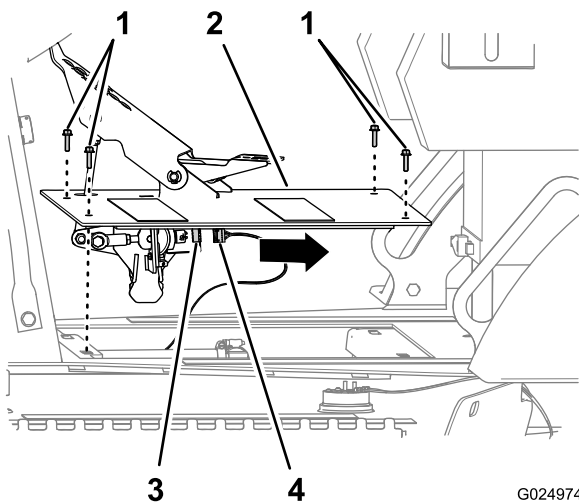

Figure 115
1. Remove the 4 hex-flanged head bolts that secure that traction-pedal assembly to the chassis of the machine (Figure 115).
2. Disconnect the 6-socket connector of the machine harness from the 6-pin connector of the traction-pedal sensor (Figure 115).
3. Remove the traction-pedal assembly from the machine (Figure 115).
1. Connect the 6-socket connector of the machine harness to the 6-pin connector of the traction-pedal sensor (Figure 115).
2. Align the holes in the plate of the traction-pedal assembly with the holes in the chassis of the machine (Figure 115).
3. Secure the traction-pedal assembly to the chassis of the machine with the 4 hex-flanged head bolts (6 x 25 mm); refer to Figure 115.